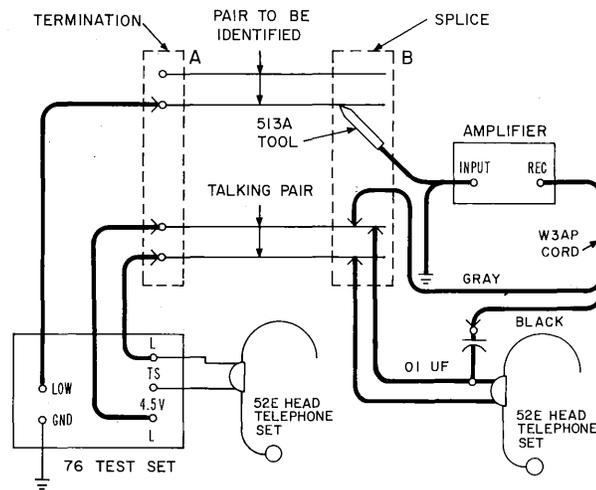

Fig. 8—Identifying Working Conductors—Special Circuits Present
3.11 Using Fig. 8, perform the following STEP, ACTION, VERIFICATION procedures to identify pairs at a splice (B):